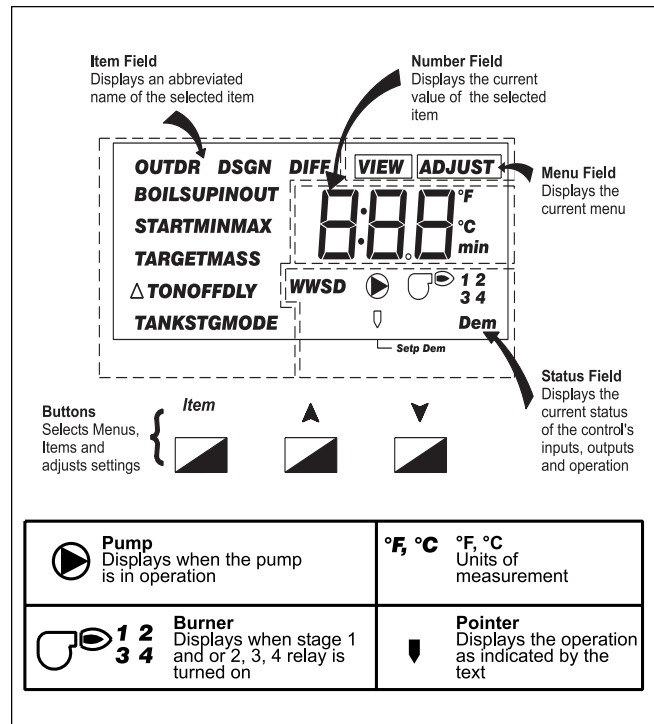

Figure 16. Temperature Control Symbol Description.
**BOIL TARGET** (Boiler Target Temperature): Your desired set-point temperature. See section 6.4.5 and Figure 16 for more information.
The control also evaluates the sensor(s) installed in the system. If the control is not in warm weather shutdown (WWSD), and the sensor(s) are below the target temperature, the “Dem” segment is turned on in the display. The control energizes the pump (on pump mounted boilers) and energizes the “PMP-“PMP” terminals. The pump symbol appears in the display (see Figures 16 and 17). The control then operates the stages to maintain the setpoint temperature.